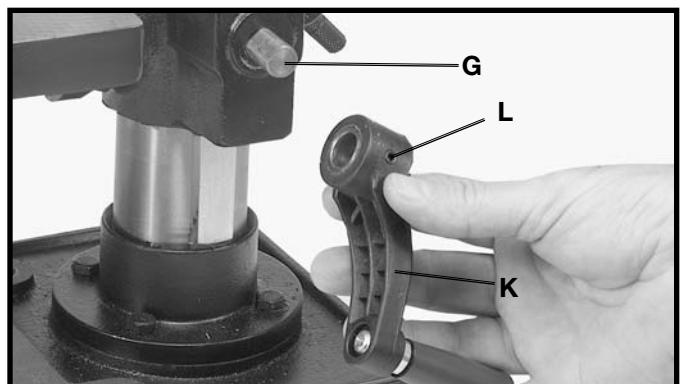

Fig. 12
8. Assemble table raising and lowering handle (K) Fig. 12, to worm gear shaft (G) and tighten screw (L) against flat on shaft.